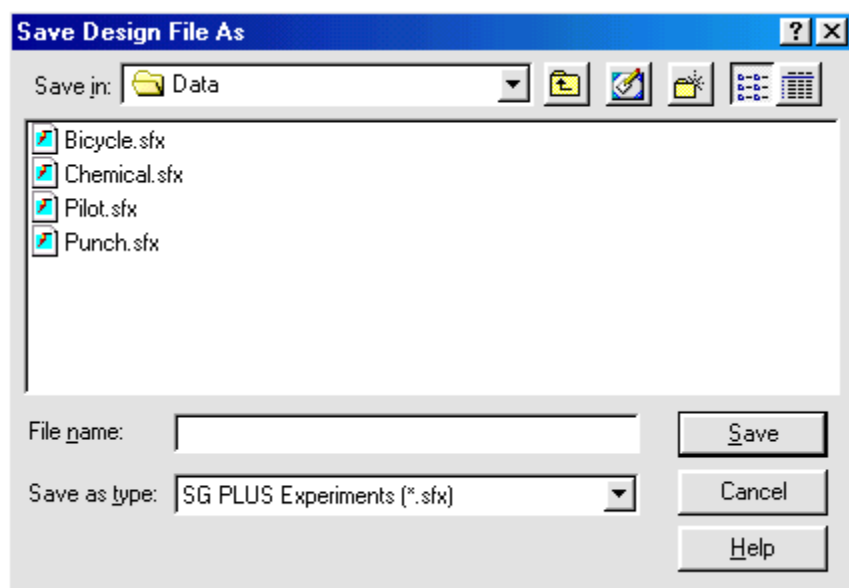

Figure 1-2. Save Design As Dialog Box
1. Choose FILE... SAVE AS... SAVE DESIGN FILE AS... from the Menu bar to display the Save Design As dialog box shown in Figure 1-2.